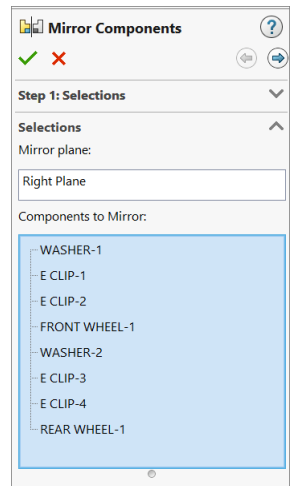

Fig. 37
Step 4. In the Mirror Property Manager click OK , **Fig. 37**.